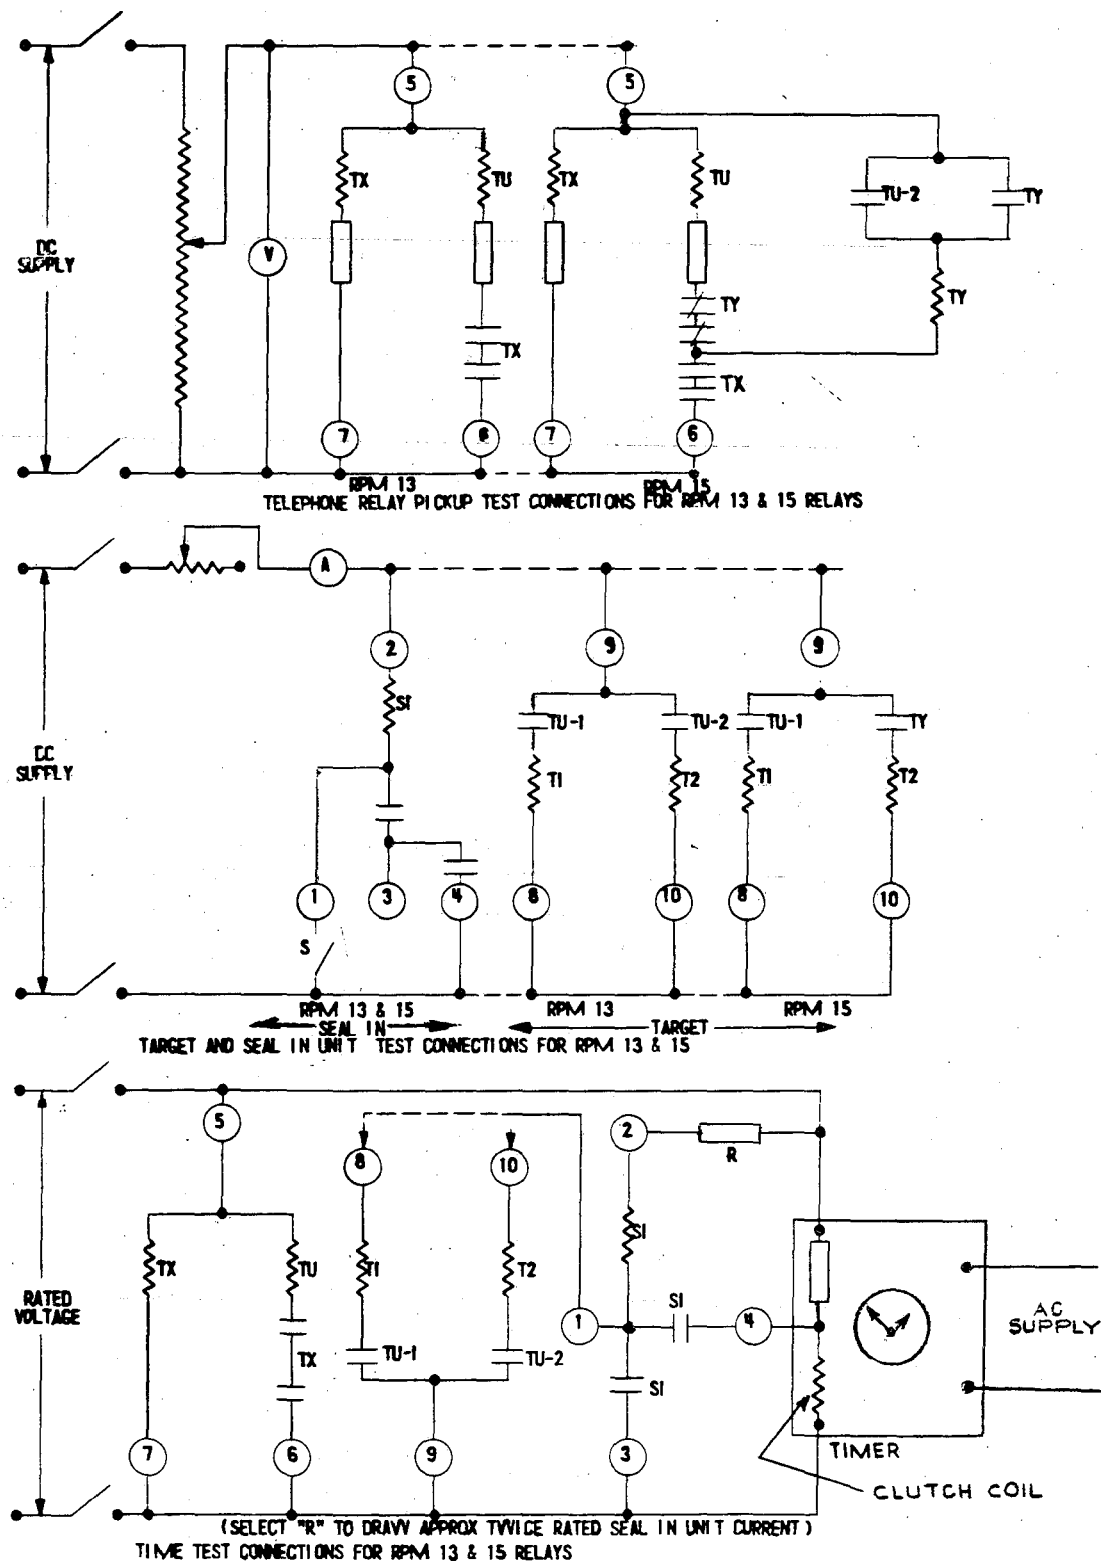

Fig. 7 (0148A3989-3) Laboratory Test Connection Diagrams For The RPM Relays Covered By This Book
Using connections shown in Fig. 7 the telephone type relays should pick up at 80% or less of rated voltage. When testing the RPM15 relays the normally closed contacts of the TY relay should be blocked open and the TU-2 (rear) contact should be closed manually. This is to prevent the operation of solenoid TU so that the regulation of the test circuit will be adequate to permit reliable test results.
Using connections shown in Fig. 7 check the targets and the seal-in unit pickup to confirm that they will operate on rated current or less. While making these tests the operating cams can be manually held in the proper position to keep the desired contact closed. When seal-in unit (SI) is picked up the opening of switch "S" should not de-energize this unit.